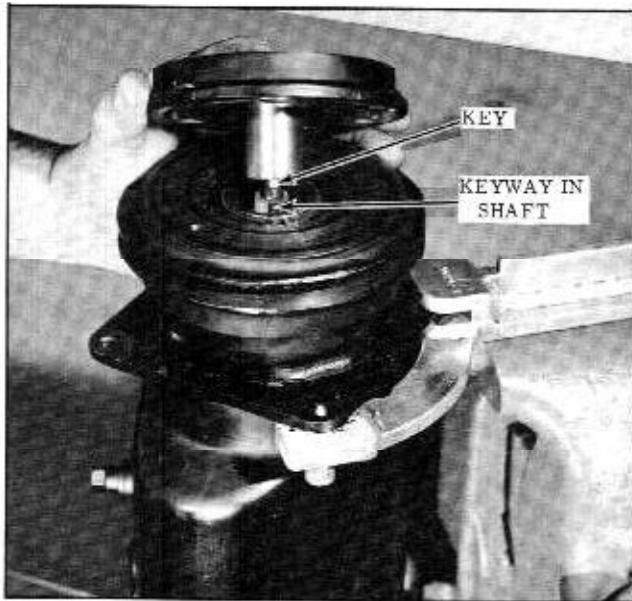

Fig. 14-21 Aligning Driven Plate Key
2. Line up the key in the hub with keyway in the shaft. (Fig. 14-21)